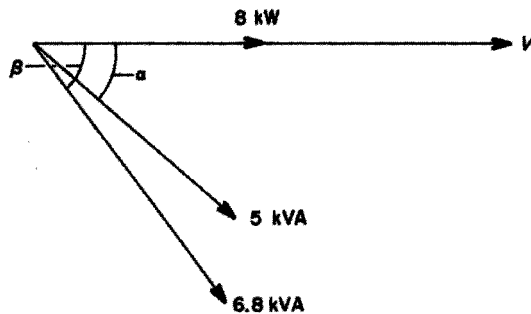

Fig. 6.28
*Method 1, by phasor diagram (Fig. 6.28)*